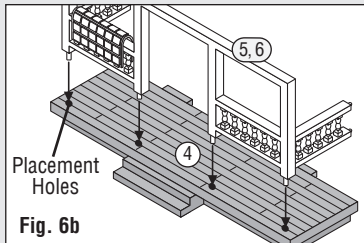

Fig. 6b
- Glue Railing Assembly (5,6) to Front Porch (4) (Fig. 6b).